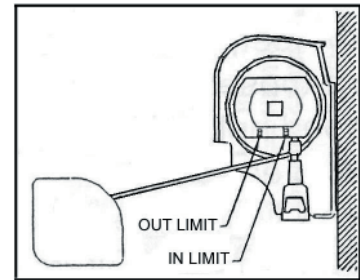

Fig. 1 Motors with Black Plastic Casings
4. The IN limit is the BLACK arrow. To make the awning close MORE, first turn the main awning wall switch or Wind Sensor switch to the IN (retract) position. At the motor, insert the tool and turn the switch next to the BLACK arrow in the direction of the (+) sign. $\frac{1}{4}$ turn represents approximately 1” of the awning movement. This action will create a tighter fit as the awning box closes. To make it close LESS, turn in the direction of the (-) sign. See Fig. 1.
The OUT limit is the RED arrow. To make the awning extend MORE and release more fabric, first turn the main awning wall switch or the Wind Sensor switch to the OUT (extend) position and extend the awning to its maximum position. Proceed by turning the limit switch next to the RED arrow in the direction of the (+) sign. To make the awning extend LESS, turn the switch in the (-) direction. See Fig. 1.